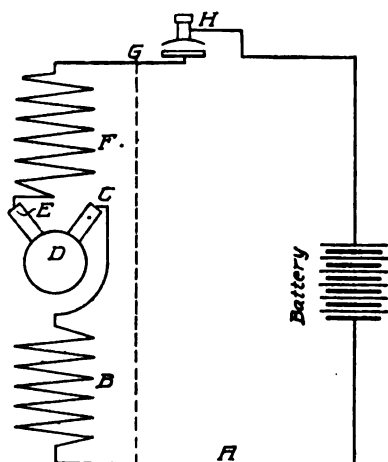
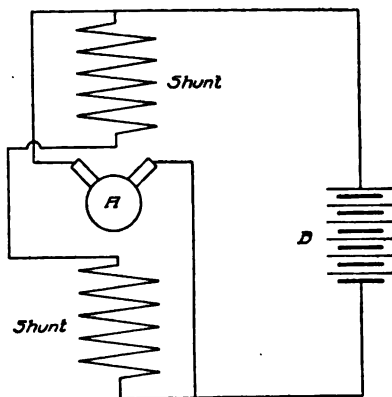

Fig. 276. Starting-Motor Circuit for Dyneto System
Fig. 277. Generator Circuit for Dyneto System
**Starting Motor.** This starting motor is of the standard series-wound type of the same characteristics of design as the generator. In Fig. 276 is shown the wiring diagram of the starting circuit and illustrates plainly the relation of the series fields B and E to the armature D and the brushes E and C. H is the starting switch and A and G are the cables of a two-wire starting system. Compare Fig. 276 with Fig. 277, which shows the shunt windings of the generator and their relation to the armature and battery. In Fig. 276 the dotted line from G to A illustrates a supposed short-circuit caused by chafing, or abrasion, of the insulation of the wires.